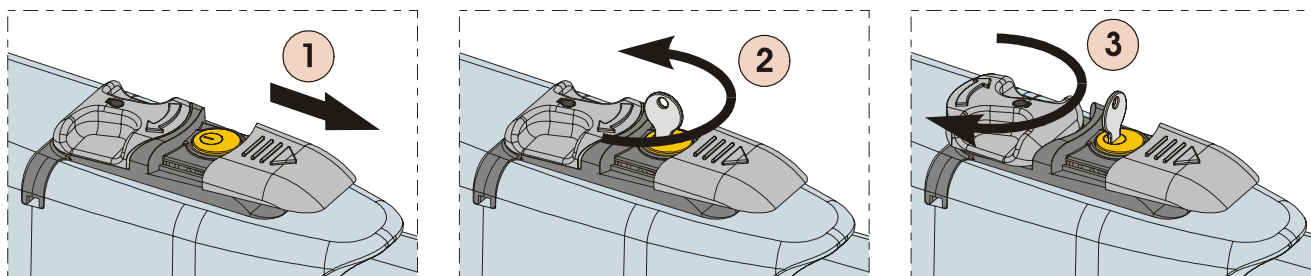

Fig. 26
- 2) Slide the protective cap, Fig.26/1.
- 3) Insert the key and turn it 90°, Fig.26/2.
- 4) To release the operator turn 180° the control lever to the direction indicated by the arrow on the release system, Fig.26/3.